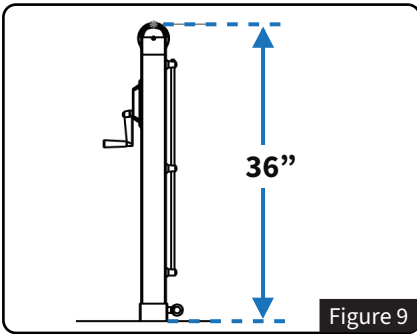

Figure 9
- Loosen eye bolts on the Height Collar (F).
- Adjust post height to 36" using a tape measure and retighten eye bolts to secure. See *Figure 9*.